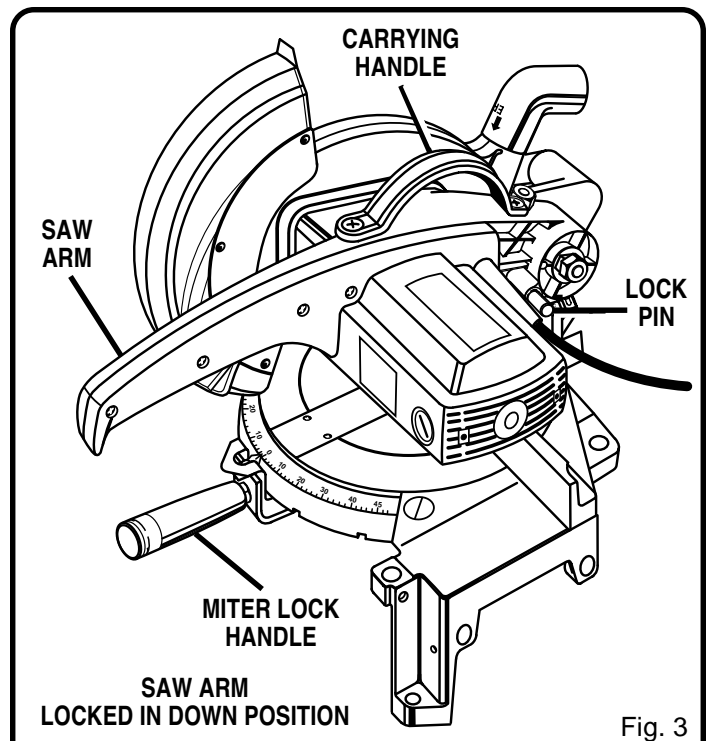

Fig. 3
- Your saw has been shipped with the saw arm locked in the down position. To release saw arm, push down on top of saw arm and pull out the lock pin. *See Figure 3.*
See Figure 3.
For convenience when carrying or transporting your miter saw from one place to another, a carrying handle has been provided on top of the saw arm as shown in figure 3. To transport, turn off and unplug your saw, then lower the saw arm and lock it in the down position. Lock saw arm by depressing the lock pin.